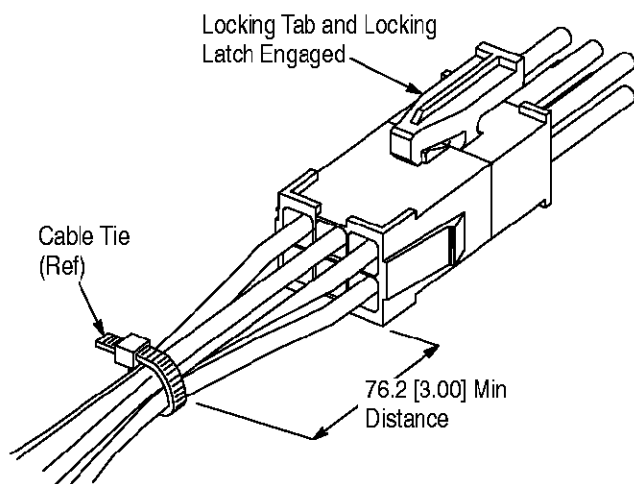

Figure 6
2. Insert the plug housing straight into the mating connector until it bottoms and the locking latch engages and is fully seated on the locking tab of the mating connector. Refer to Figure 6.
3. If necessary, bundle wires together and support with cable ties or similar device. Make sure that the distance of the cable tie from the wire end of the connector is a minimum of 76.2 [3.0]. Refer to Figure 6. Keep the wires perpendicular to the connectors and avoid an excessively sharp bend radius. DO NOT stretch or confine the wires in any way.